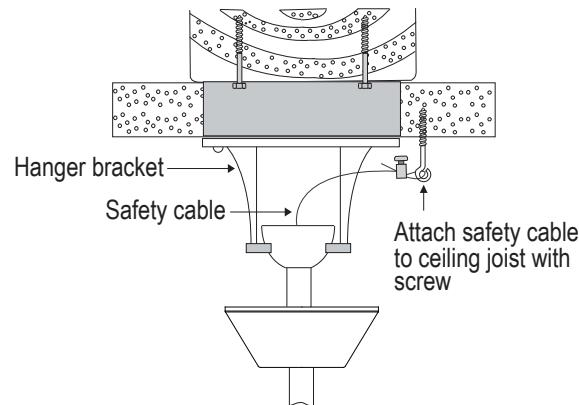

Fig. 10
**Step 6.** Hang the fan on the hook of the hanger bracket. Be certain that the canopy is fully locked into hook as shown in Fig. 10. This will allow you to make the electrical connections.
**Step 1.** Attach the provided wood screw and washers to the ceiling joist next to the mounting bracket but do not tighten. (Fig. 10)